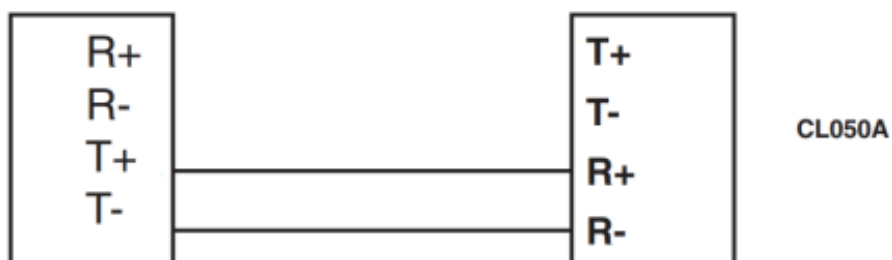
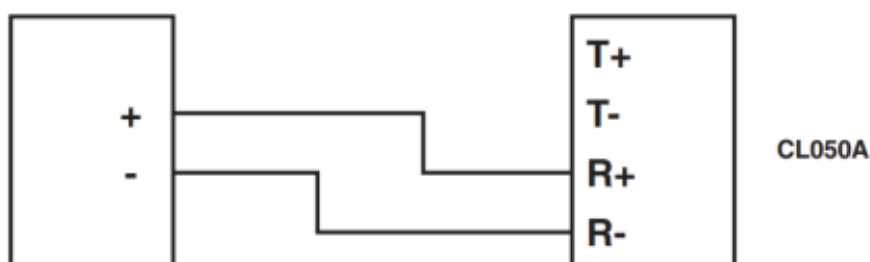

Figure 4-1. Wiring configuration for a 4-wire current loop LED test.
Figure 4-2. Wiring configuration for a 2-wire current loop LED test.
4. Attach the T+ of the 4-wire current loop device (or “+” in a 2-wire current loop) to R+ of the CL050A. See Figure 4-1 (4-wire current loop) or Figure 4-2 (2-wire current loop).